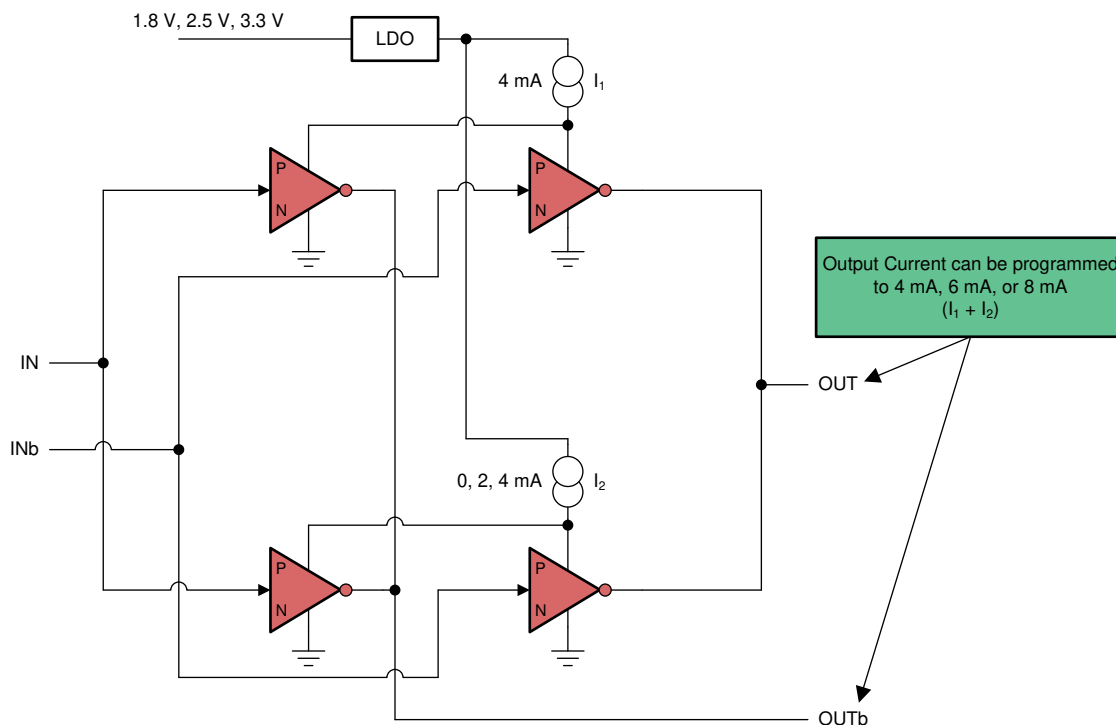

图 8-22. Structure of AC-LVDS, AC-CML, and AC-LVPECL Output Stage
The AC-LVDS, AC-CML, and AC-LVPECL output structure is given in Figure 8-22 where the tail currents can be programmed to either 4 mA, 6 mA, or 8 mA to generate output voltage swings that are compatible with LVDS, CML, or LVPECL, respectively. Because this output structure is GND referenced, the output supplies can be operated from 1.8 V, 2.5 V, or 3.3 V, and offer lower power dissipation compared to traditional LVDS, CML, or LVPECL structures without any impact on jitter performance or other AC or DC specifications. Interfacing to LVDS, CML, or LVPECL receivers is accomplished using just an external AC-coupling capacitor for each output. No source termination is required, because the on-chip termination is automatically enabled when selecting AC-LVDS, AC-CML, or AC-LVPECL for good impedance matching to 50-Ω interconnects.
- The latency is deterministic and the variation is no more than 1 VCO clock cycle. An example scenario is shown in 图 8-22.